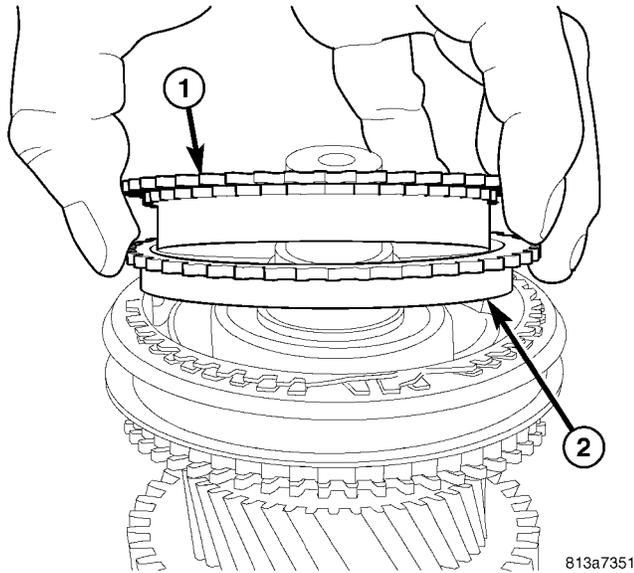

Fig. 17 FIFTH GEAR SYNCHRO
(11) Remove fifth gear synchronizer blocker ring (1) (Fig. 17) and friction ring (2).
(12) Set geartrain and shift rails with rear housing into Build Fixture 9633.